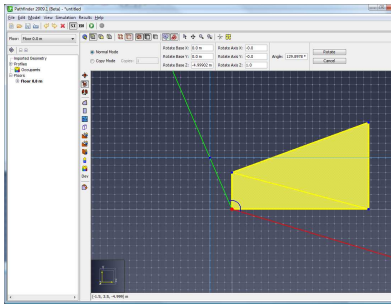

Figure 150. Reference line (red) and rotation angle (green)
- The second defines a reference vector extending from the rotation base (Figure 150).